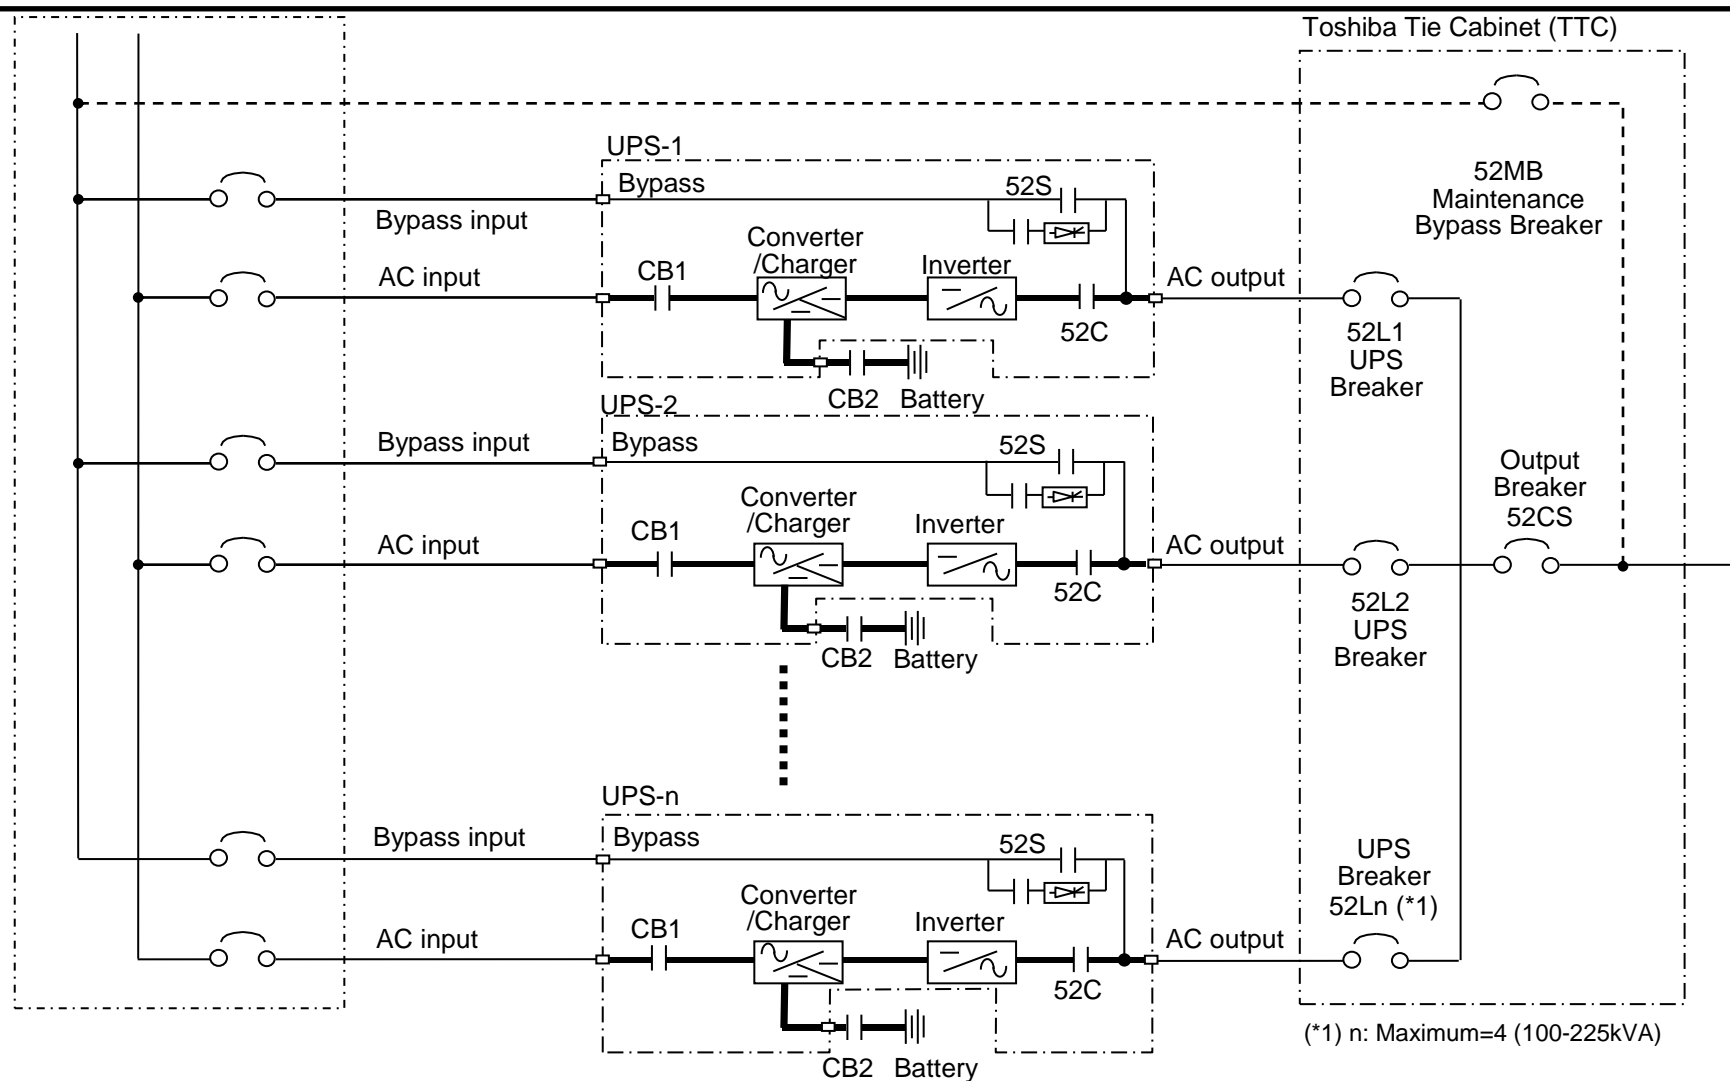
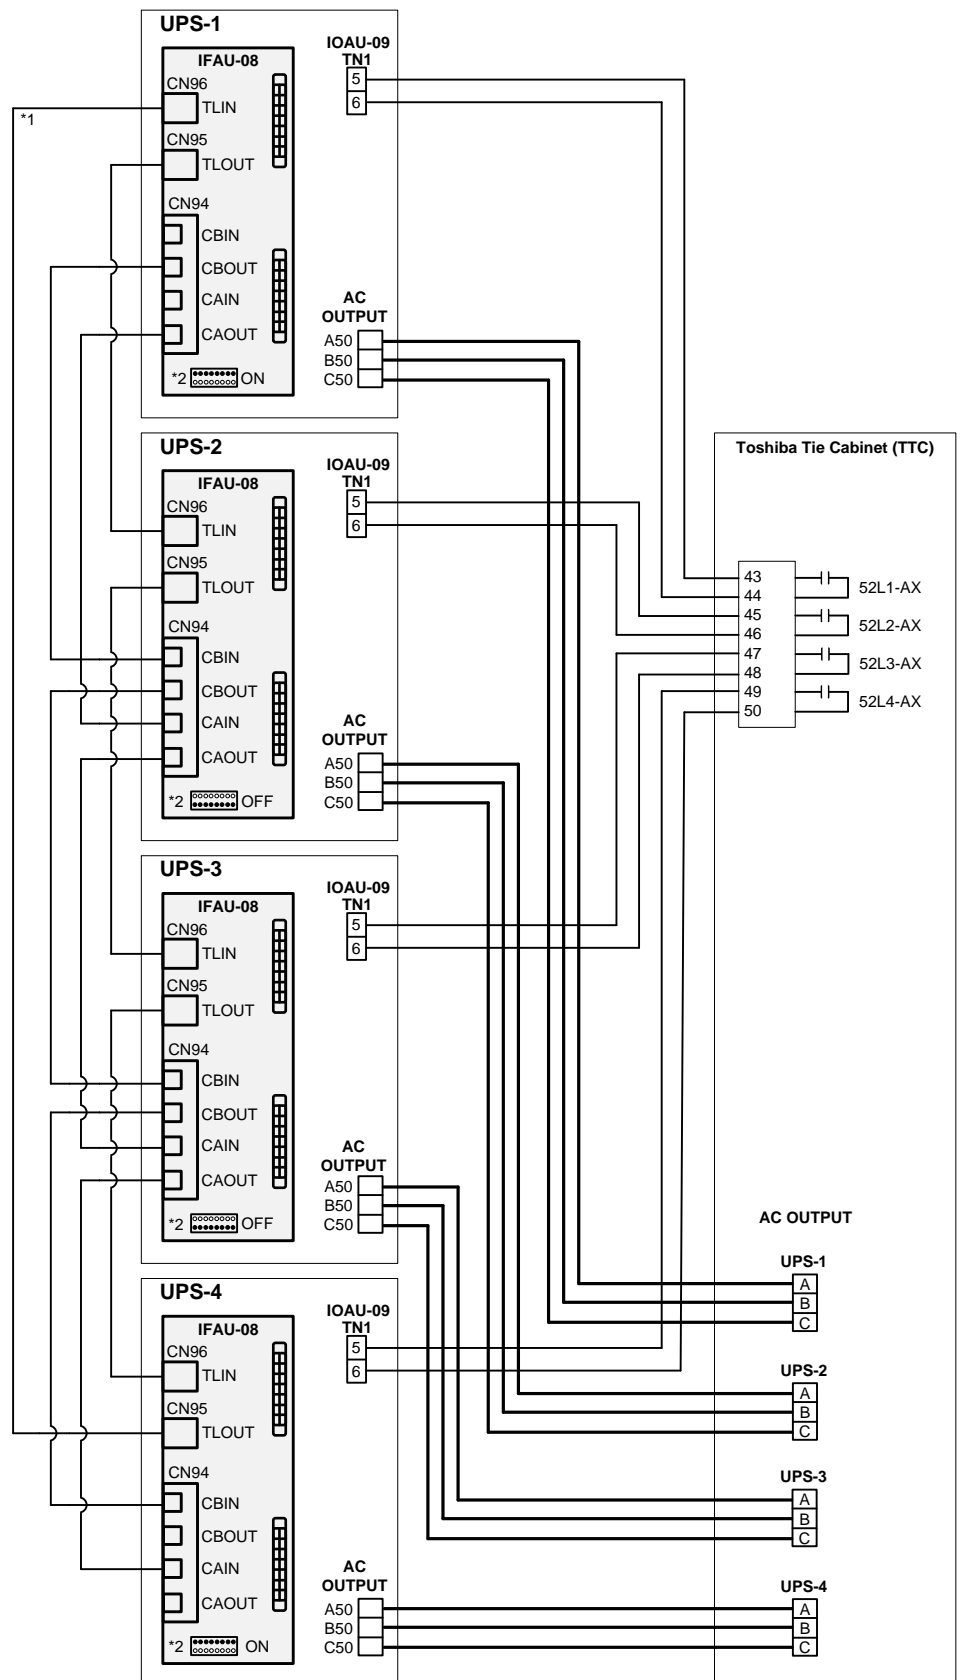

Figure 5-4 Power Wire Connections (Parallel System Configuration)
Figure 5-5 Power Wire & Control Wire Connections for 4 units in MMS Configuration
- (1) Confirm the number of units to be connected in parallel. Identify the input/output power terminal blocks and control wire connections for parallel operation systems as shown in the appropriate Figure 5-4 and Figure 5-5.
- (2) Connect the external control wire and power wire.
Parallel configuration wiring (Refer to Figure 5-4 and Figure 5-5)
Parallel control signal for CN94 as shown in Figure 5-5.
Parallel control signal for CN96 and CN95 as shown in Figure 5-5.
(Refer to Figure 5-4 and Figure 5-5)